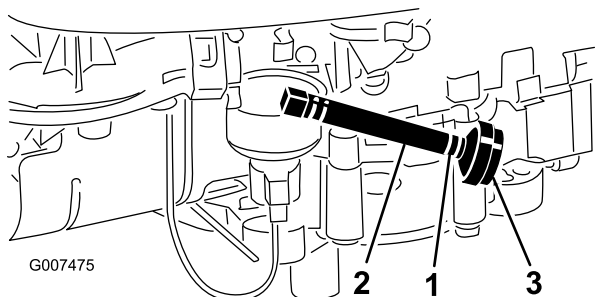

Figure 28
8. Squeeze the ends of the hose clamp together and slide it up the fuel line toward the fuel tank (Figure 28).
9. Pull the fuel line off the filter (Figure 28) and allow the gasoline to drain into a gas can or drain pan.
Note: The best time to replace the fuel filter (Figure 28) is when the fuel tank is empty. Never install a dirty filter if it is removed from the fuel line.
7. Squeeze the ends of the hose clamps together and slide them away from the filter (Figure 28).